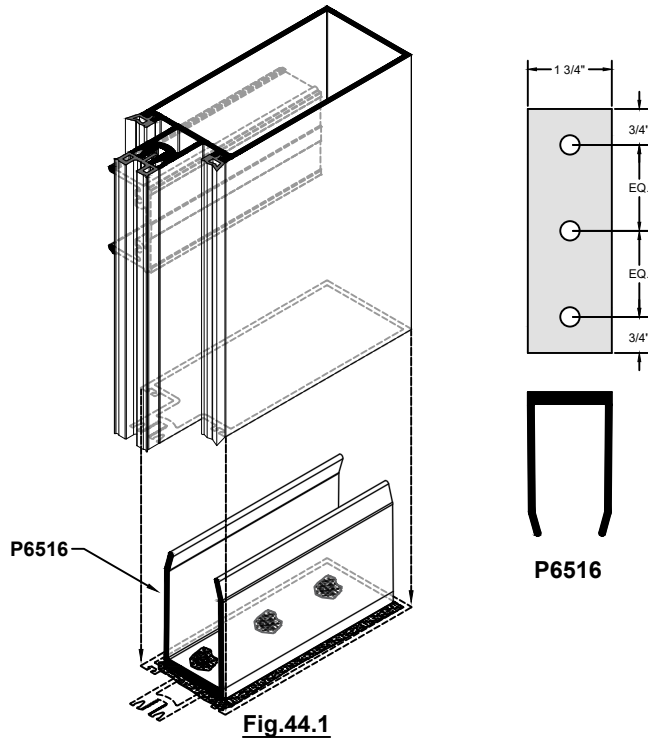
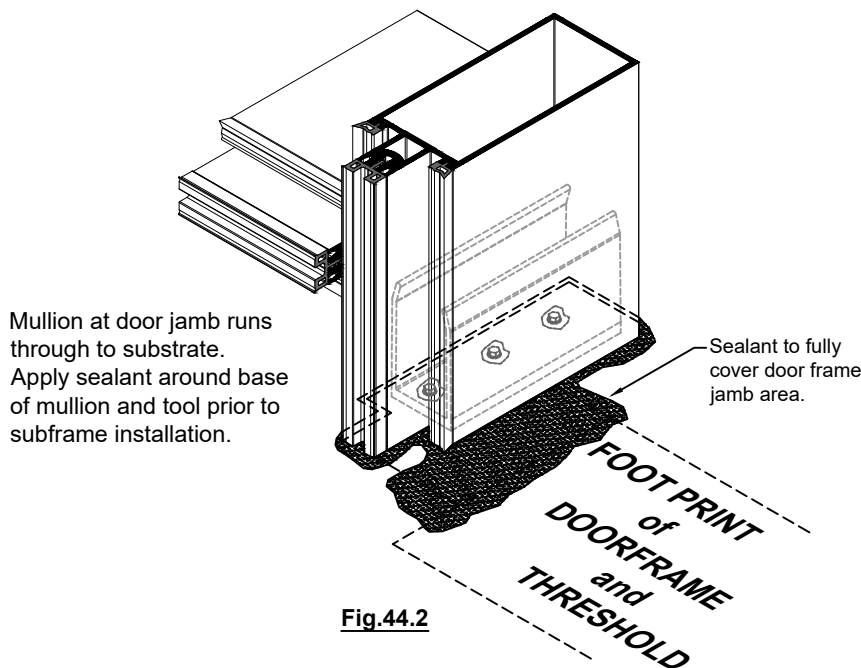

Fig.44.1
Fig.44.2
- B. Curtain wall verticals and door subframes run to floor. Bed verticals in sealant and anchor to building per approved shop drawings. See **Fig.44.1** and **Fig.44.2** for possible anchoring methods.